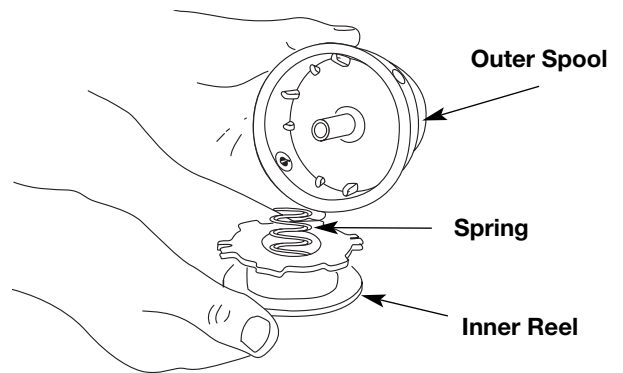

Fig. 13
2. Remove the inner reel from the outer spool (Fig. 13).
3. Remove spring from the inner reel (Fig. 13).
2. Remove the old inner reel from the outer spool (Fig. 13).
3. Remove the spring from the old inner reel (Fig. 13).